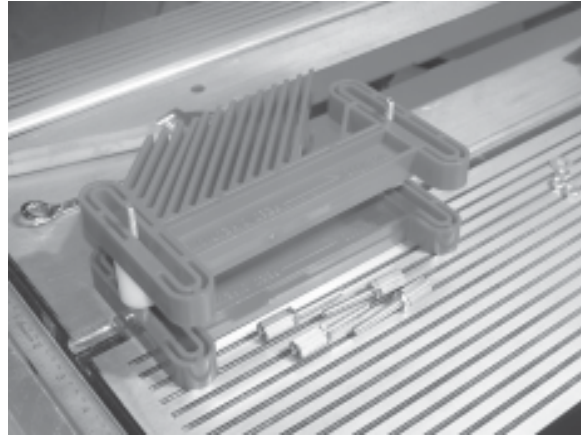

Figure 9
10. Install the second Featherboard. Place the next Featherboard over the stud assembly, on top of the Spacer, see Figure 9. Slide the Featherboard on the spacer until it sits balanced on the Spacers.